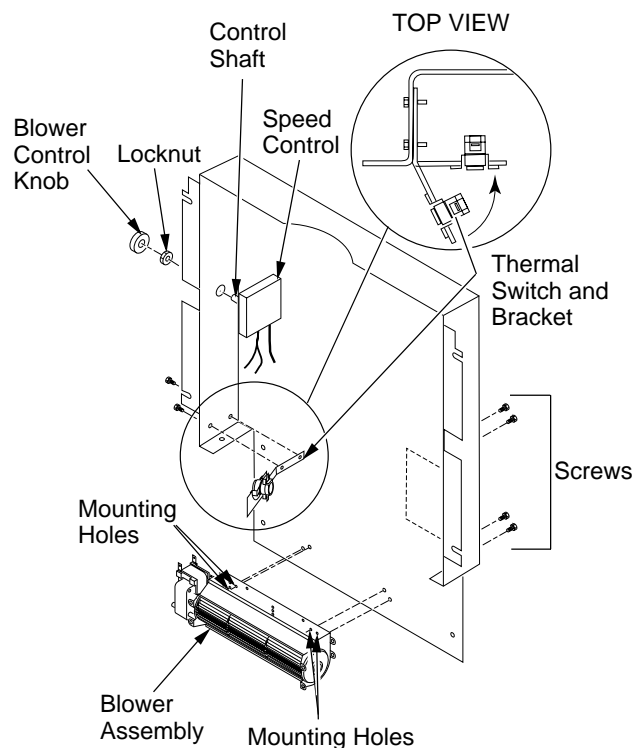

Figure 17 - Blower Assembly, Speed Control, and Thermal Switch Locations
3. Align the holes in the top mounting tabs of blower with the holes in wall of rear cover. Using the 4 screws provided, mount blower and tighten screws securely (see Figure 17).
4. **Thermostat Blower Only:** Attach thermal switch and bracket to inside rear cover wall with two hex head screws provided as shown in Figure 17, page 8. After securing bracket to rear cover, carefully bend along existing bend line on bracket to almost a 90° angle (see Figure 17, page 8). This will allow thermal switch to be positioned against stove rear wall and sense temperature when in operating mode.
5. Place speed control on left inside of rear cover and push the plastic control shaft through opening (see Figure 17, page 8).